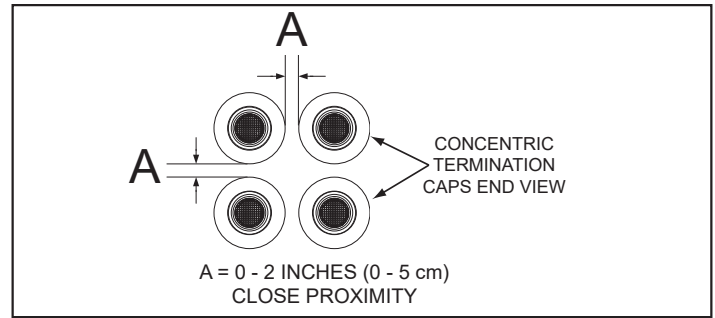
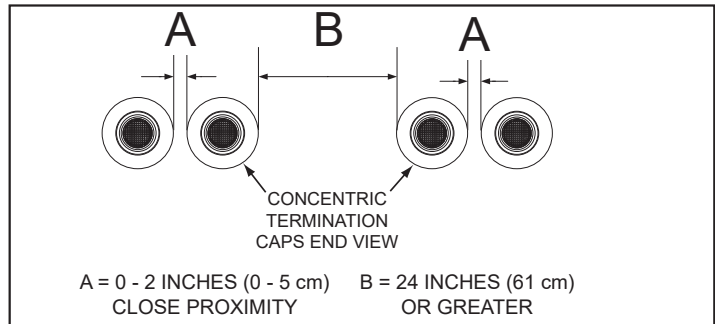
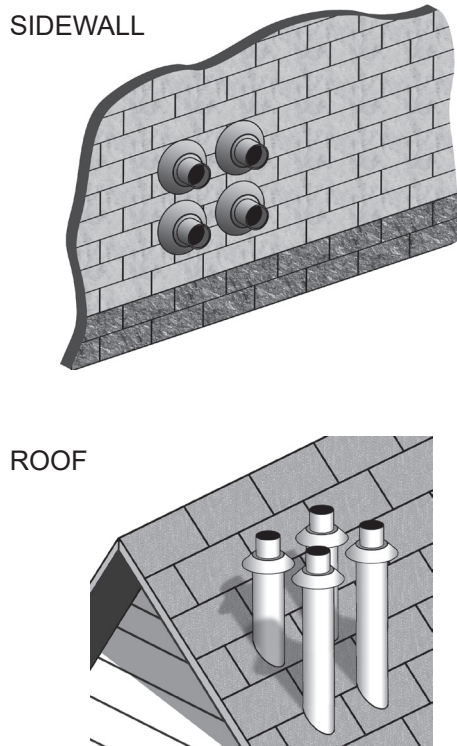

Figure 47. Four Concentric Terminations - Close Proximity
Figure 48. Four Concentric Terminations in a Line
Figure 51. Four Concentric Terminations - Sidewall and Roof
1. When installing four concentric terminations through a roof or through a sidewall in close proximity, they can be arranged into stacked rows of two, as shown in *Figure 47*, or lateral rows of two as shown in *Figure 48*.
2. Four is the maximum number of concentric terminations that can be installed in a group where all terminations are in close proximity as shown in *Figure 47*.
Four concentric terminations can be installed in close proximity as shown in *Figure 51*. See *Figure 47* (page 43) and *Figure 48* (page 43) for detailed information on clearances and additional arrangement options.